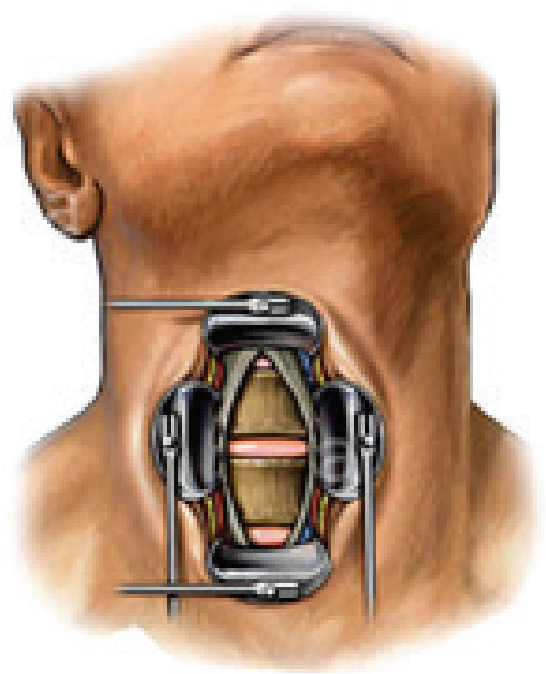

Figure 2
- Access the operative site and retract the tissues using preferred instruments. Retract the muscles, trachea, esophagus and carotid artery to clearly see the vertebral bodies and discs (Figure 2). Insert a marker into the disc and confirm the correct operative level using a lateral radiograph.